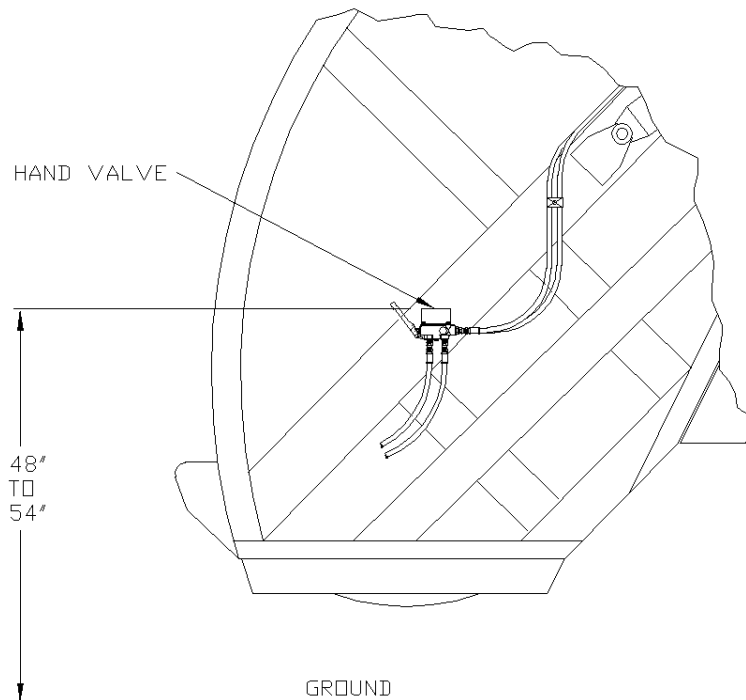

figure I-1
1. Choose and mark an acceptable location on each side of the truck to mount the hand valve assemblies (*figure I-1*).